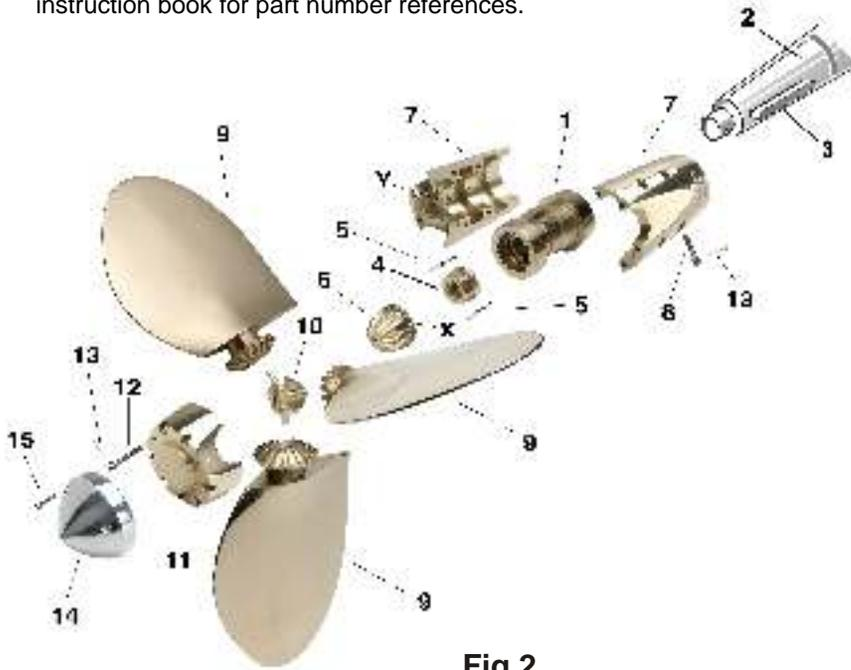

Fig.2
3) **ASSEMBLY:** Make sure that if you receive more than one propeller that do not interchange parts. Each propeller is individually balanced and if interchanged it will be put out of balance. Please use figure 2 in the instruction book for part number references.
D) Fill the two halves of the spinner (7) with a sea water grease. From our experience Lubraplate "130 AA" grease has worked best. Close the two halves around the hub and tighten down the screws.
E) Locate the mark on the top inside of the spinner (a small drill hole). This is the "Y" mark in figure 2. Rotate the spinner until the "Y" mark on the spinner coincides with the correct letter on the top of the central cone gear. This letter is determined from the chart in figure 4. Fill the top of the spinner with grease.
- The numbers above are from Figure 2 at the beginning of this Max-prop Manual